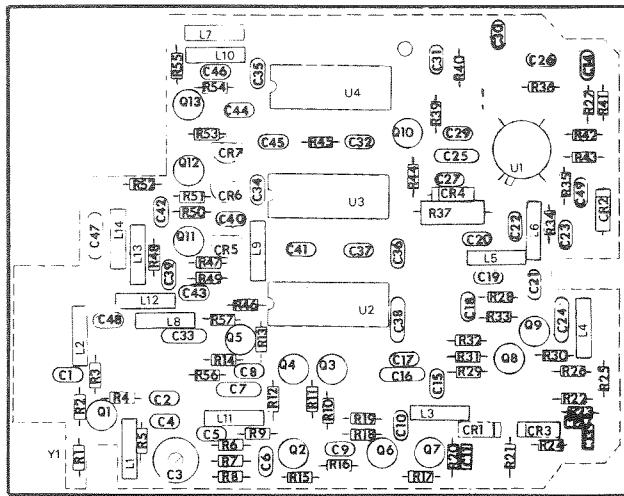

Figure 4-8. RF PC Board, Marker Section
5. Connect Input of spectrum analyzer to TP1 on RF PC board (Figure 4-8).
1. Connect Input of spectrum analyzer to collector of Q1 (Figure 4-8).
2. If 100 MHz signal is not present, adjust C3 (Figure 4-8).
3. If the above tests do not reveal the trouble, check stages Q6 through Q10, U1 and their components (Figure 4-8).
- q. If either the 25, 5 or 1 MHz marker is absent from the CRT display, check for the 100 MHz waveform at pin 1 of U2 (Figure 4-8).
- r. If the 100 MHz waveform is absent at pin 1 of U2, check Q3, Q4, Q5 and their components (Figure 4-8).
- 1. Locate R57 (Figure 4-8). R57 is a factory-select resistor that may or may not be used.